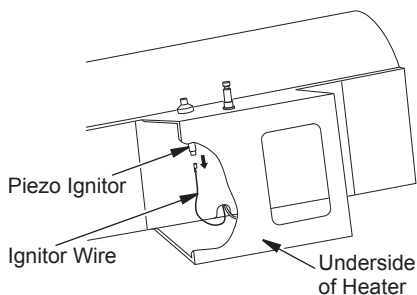

Figure 12 - Removing Ignitor Wire from Piezo Ignitor
2. Remove black ignitor wire from piezo ignitor. Access ignitor wire through underside of heater base (see Figure 12). Push wire up through notch in filler panel.